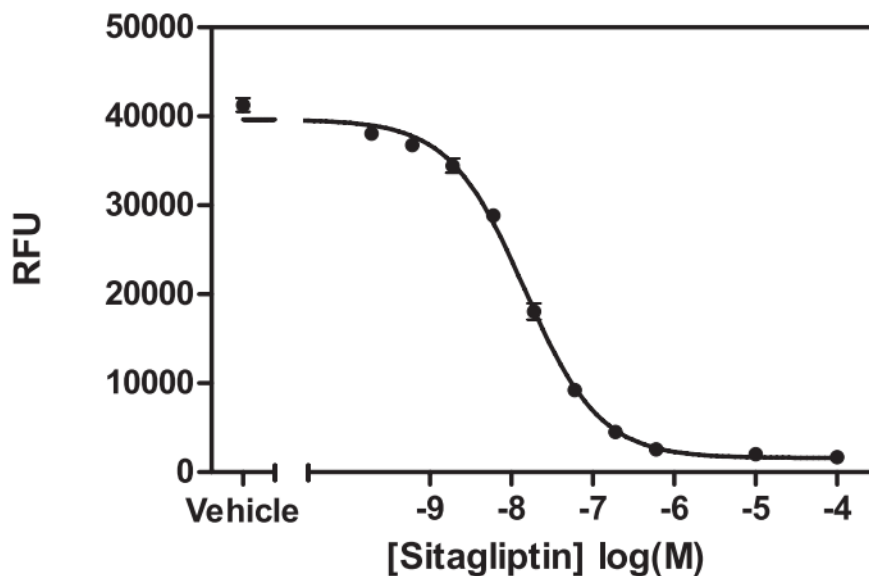

Figure 1. Inhibition of DPP (IV) by Sitagliptin. Vehicle represents 100% initial activity.
4. If multiple concentrations of inhibitor are tested, graph either the Percent Inhibition or Percent Initial Activity as a function of the inhibitor concentration to determine the IC50 value (concentration at which there was 50% inhibition). An example of DPP (IV) inhibition by Sitagliptin is shown in Figure 1.